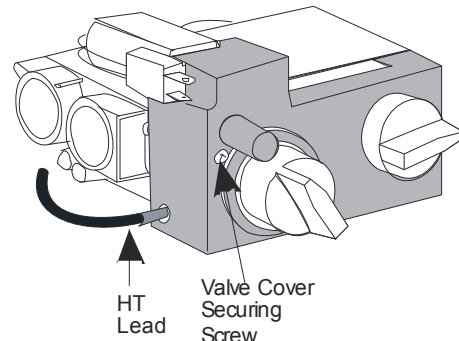

Figure 35
3. Remove the valve cover securing screw (see **Figure 35**).